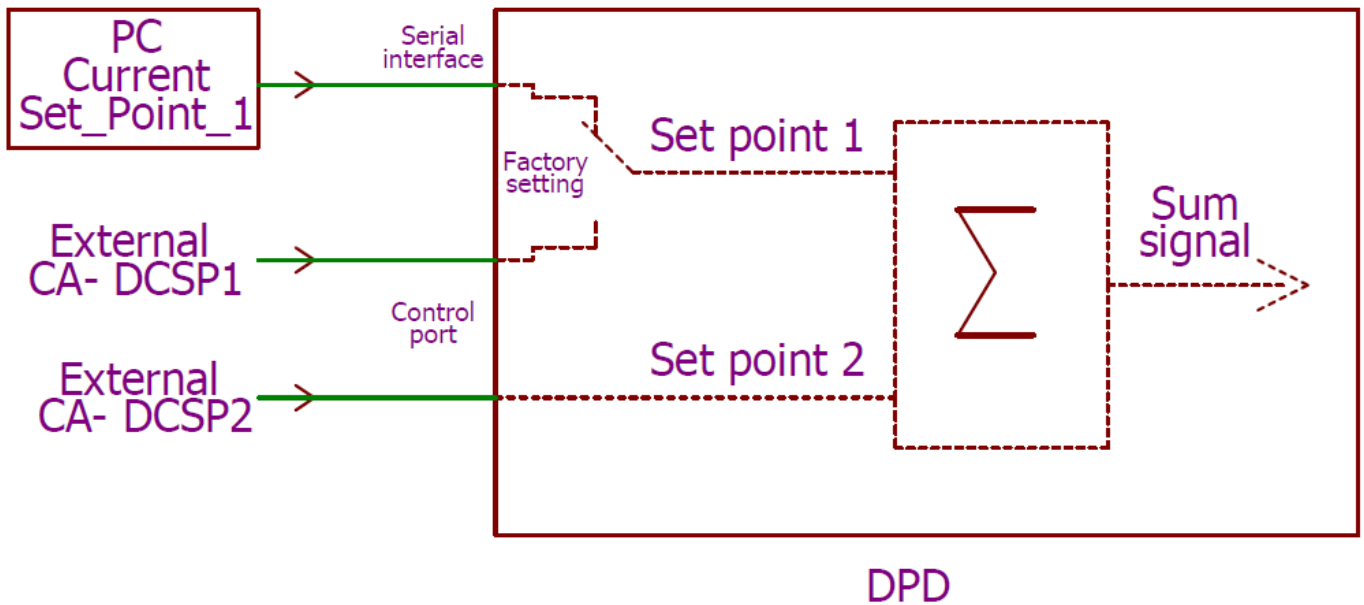

Fig. 14
The DPD (P) device has two set points for current adjustment. Set point 1 can be set via software optionally (depending on the device configuration) this can be switched to external hardware operation - CA-DCSP1; factory setting (see Fig. 14). The set point 2 (CA-DCSP2) can be set via the hardware operation (see section 8.2.1.).
***Please note: Level of Set Point 1 and Set Point 2 (CA-DCSP2) are added (see Fig. 14) and limited by Current_Set_Point_Limit level.**